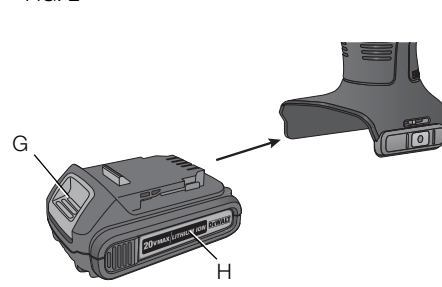

FIG. 3
### Charging Procedure (Fig. 3)
- Insert the battery pack (H) into the charger, as shown in Figure 3, making sure the pack is fully seated in charger. The red (charging) light will blink continuously, indicating that the charging process has started.